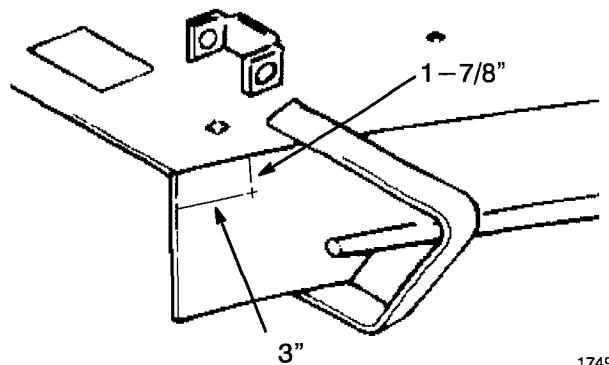

Figure 4
6. Mark location of deflector hole in front of mower deck and drill (1) 13/32 in. hole (Fig. 4).